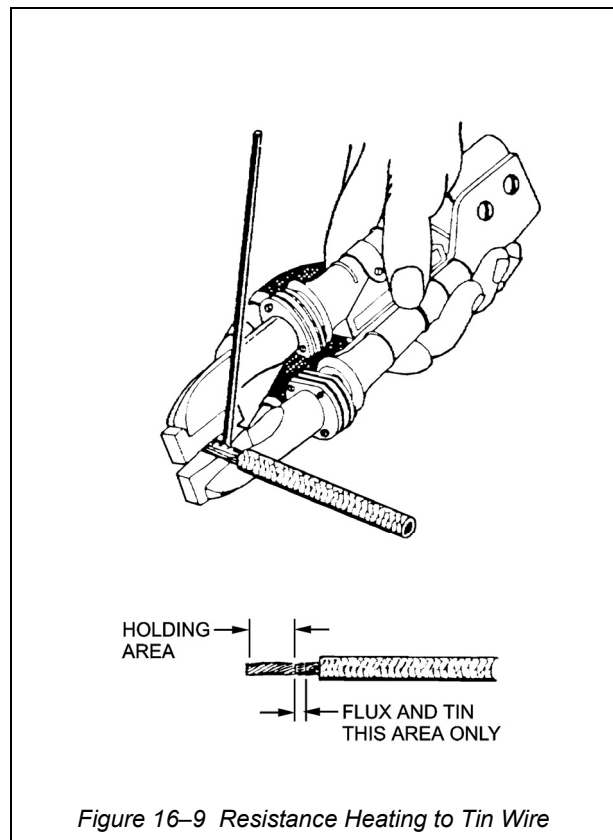

Figure 16-9 Resistance Heating to Tin Wire
15. Electrical resistance heat is a good method for silver soldering thermocouple wires. Use a unit that has a capacity of 1000 watts (Figure 16-9). Wire that is to be tinned by means of electrical resistance should be stripped 12.7mm longer than wire which is to be dip-tinned or torch-tinned. The extra 12.7mm provides a holding area which is removed after tinning is complete. See Figure 16-4, Figure 16-5 and Figure 16-6 for
- a. Apply hard solder flux to area to be tinned. This is an area about 3mm long, as shown in Figure 16-9.